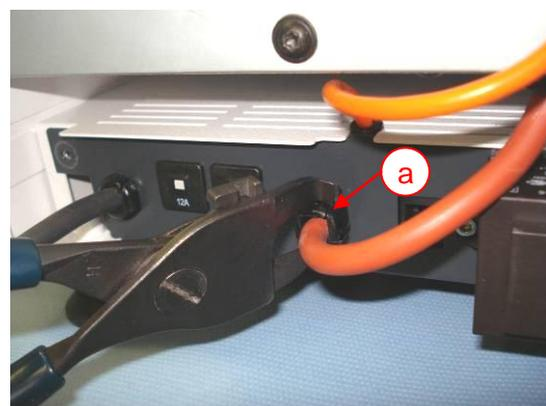

Fig. 23 – strain relief, heating cable.
- Loosen strain relief of the heating cable (Fig. 23 a)